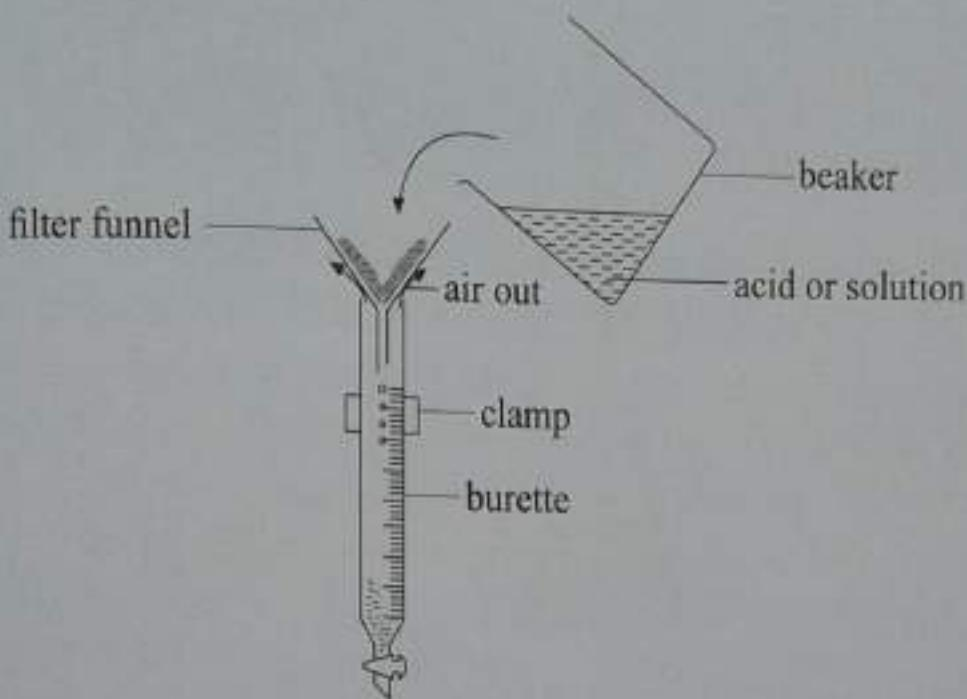

Fig. 4.6: Correct way of filling a burette
- Using a filter funnel and a beaker, fill the burette with the acid or the solution to be used up to above the 0 cm³ graduation mark. When filling the burette, hold the funnel with one hand so that air can escape as you fill the burette otherwise air will hold the acid in the funnel and when you lift the funnel, the acid quickly fills the burette and spills over. See Fig. 4.6.